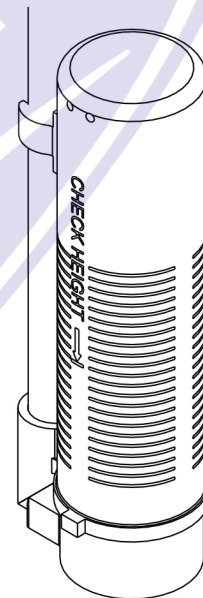

Figure 1 Residential Air Check Valve
10. Place approximately 1 inch (25 mm) of water above the grid plate. If a grid is not utilized, fill to the top of the air check (Figure 1) in the salt tank. Do not add salt to the brine tank at this time.